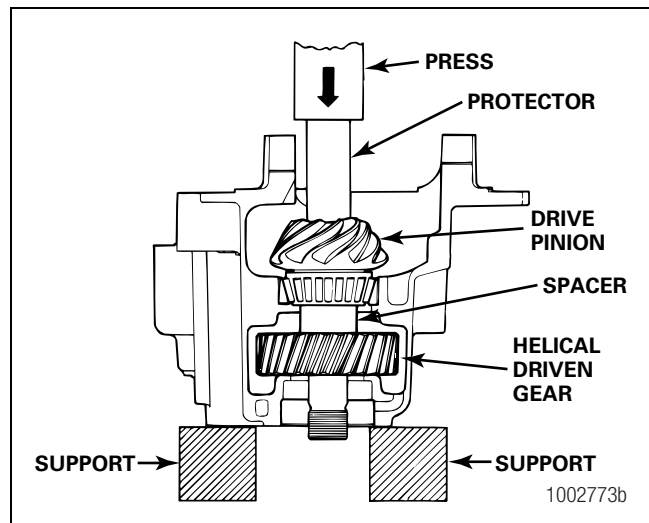

Figure 5.12
4. Place the helical driven gear over the pinion bore in the carrier so that the splines inside the gear are toward the FRONT of the carrier. Place the large spacer on top of the helical driven gear so that the spacer is toward the inner bearing cup. Figure 5.12.
5. Install the drive pinion into the helical driven gear. Verify that the splines on the pinion engage the splines inside the gear. Figure 5.12.
6. Place a protector onto the head of the drive pinion. Use a press to install the pinion into the carrier so that the inner bearing cone touches the bearing cup. At this time, the helical driven gear will not be completely installed on the drive pinion. Figure 5.12.